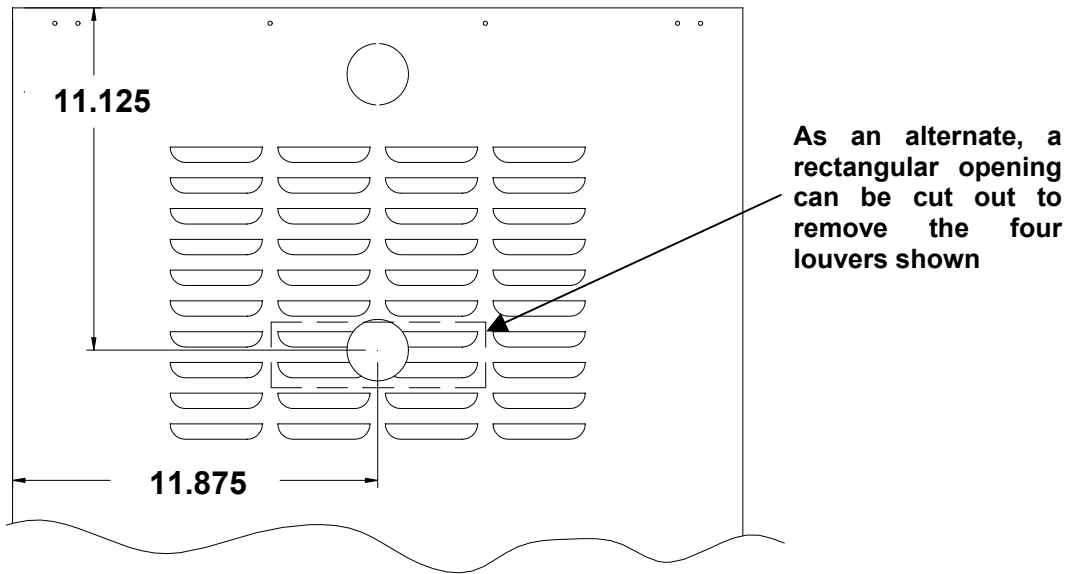

Figure 9 Rear Panel Modification
- 18) If your steamer does not currently have an inspection opening in the rear panel it will be necessary to fashion a clearance opening in this panel to clear the mounting bolt of the new rear inspection cover for the boiler. Cut at least a 2" diameter or larger opening 11 1/8" in from the top of the rear panel centered in the middle using a Greenlee knockout punch or similar method (See Figure 9 on the following page). Alternatively, a rectangular cutout as shown in Figure 9 in dotted lines can also be used. Be sure to remove any burrs or sharp edges left in the new opening from the cutting operation.